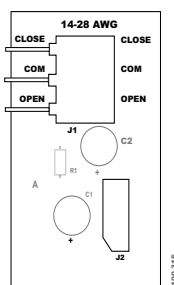
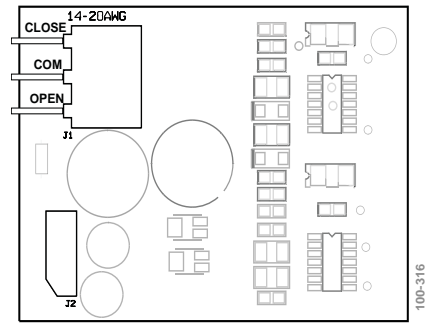
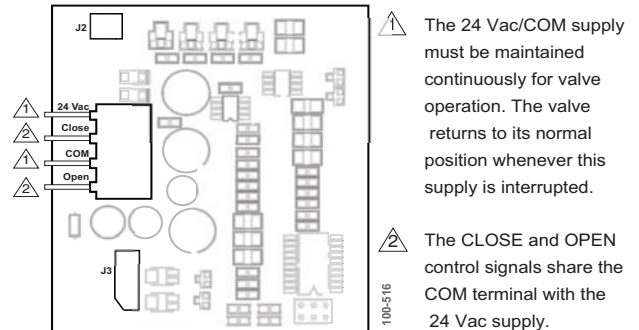

Figure-5 Typical Wiring of 3-Wire Floating Non-Spring Return Actuator
Figure-6 Typical Wiring of 3-Wire Floating Non-Spring Return Valves with Time-Out
Figure-7 Typical Wiring of 3-Wire Floating Spring Return Valves with Time-Out
1. Remove the cover from the actuator, then connect the power and control wiring to the terminal block (Figure-5, Figure-6, Figure-7).